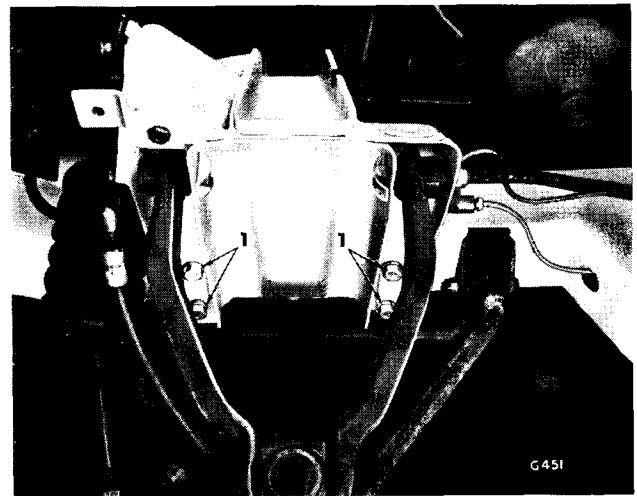

Fig. 17. Sub-frame attachment
8. Remove the nut and disconnect the steering tie-rod from the steering arm (28).
10. Remove four bolts (1) (Fig. 17), spring and plain washers and tapping plates.